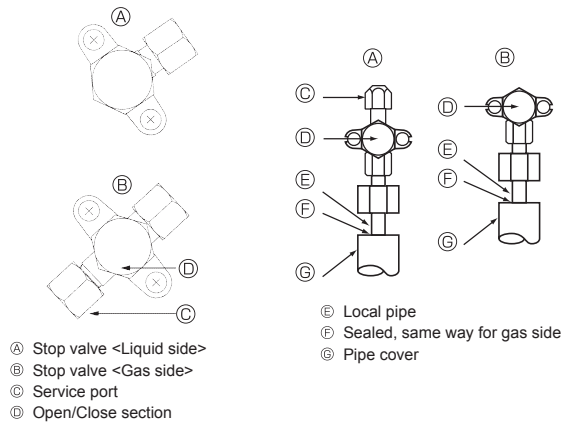

Fig. 4-5
4.4. Refrigerant pipe airtight testing method (Fig. 4-5)
- If the pressure decreases in steps (2) or (3), there is a gas leak. Look for the source of the gas leak.